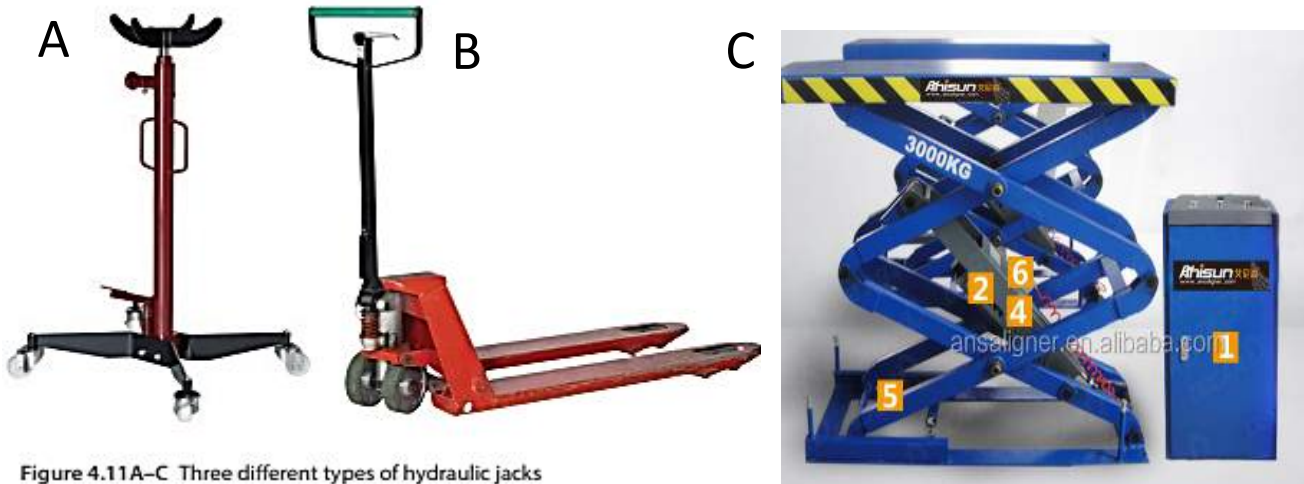

Figure 4.11 A–C Three different types of hydraulic jacks
3.5.1 Complete the table below. Compare the three hydraulic jacks shown in Figure 4.11 A–C above.